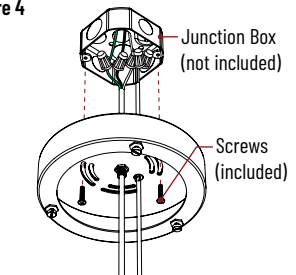

Figure 5
6. Attach cylinder to cylinder cap through keyhole slots. (Figure 5)